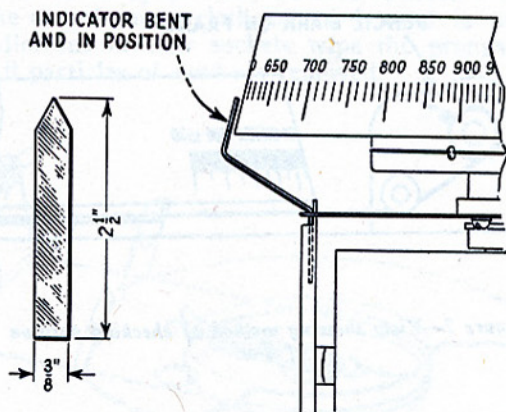

Figure 8—Dial indicator.
4. Take a small piece of metal about  $2\frac{1}{2}$ " long by  $\frac{3}{8}$ " wide and point one end of it. Bend as indicated in Figure 8 and then slip it under the gang condenser shield clamp so that it will act as an indicator for the dial. With the pencil mark and the pin coinciding as before removal of the chassis from the cabinet, set the indicator so that it will read 600 K.C. on the scale. From now on be careful not to disturb the indicator and recheck its position if in doubt as to its accuracy.